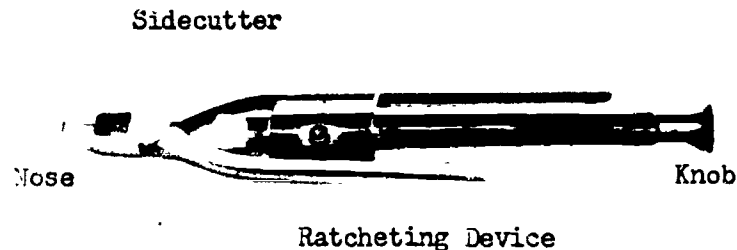

Figure 9. Safetywiring Pliers.
A. Safetywire pliers may be used to perform all the mechanical steps of safetywiring. The steps are bending, twisting, and cutting. The flat, rounded nose is used to grip and bend the wire. Just behind the nose is the sidecutter for cutting the wire. The twisting mechanism consists of a lock. The pliers are locked closed on the wire. A ratchet device which causes the pliers to rotate in a clockwise direction when the knob is pulled. See figure 9 for an illustration of the safetywiring pliers.